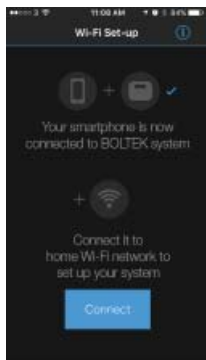

Fig. 2.7f
- Press the 'Connect' button to search the Wifi networks available (Fig. 2.7f)